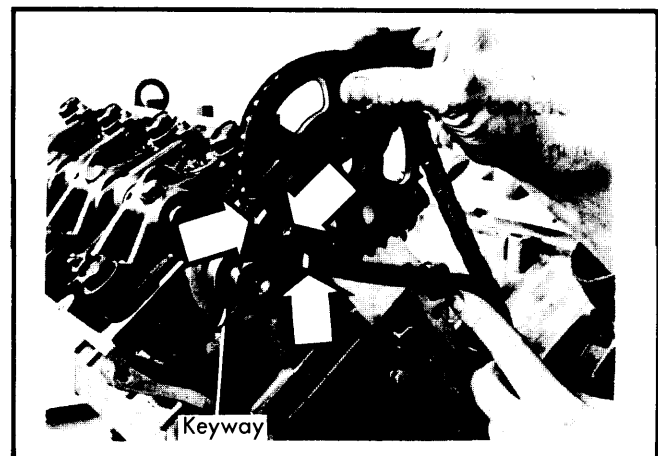

Fig. 6 Right Camshaft Keyway and Timing Marks
3) Rotate crankshaft clockwise  $150^\circ$  so that key points straight downward. Set right camshaft so keyway is in position shown in Fig. 6. Place chain on sprocket so link between